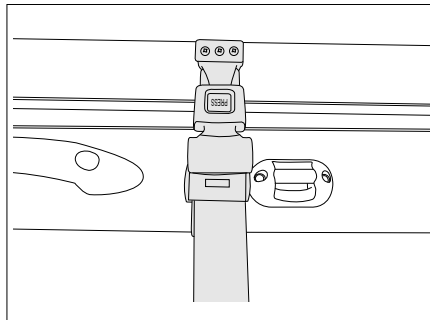

Fig. 172 Safety belt
- Loosen the retaining belt (Fig. 172).
- Attach the retaining belt (Fig. 172).